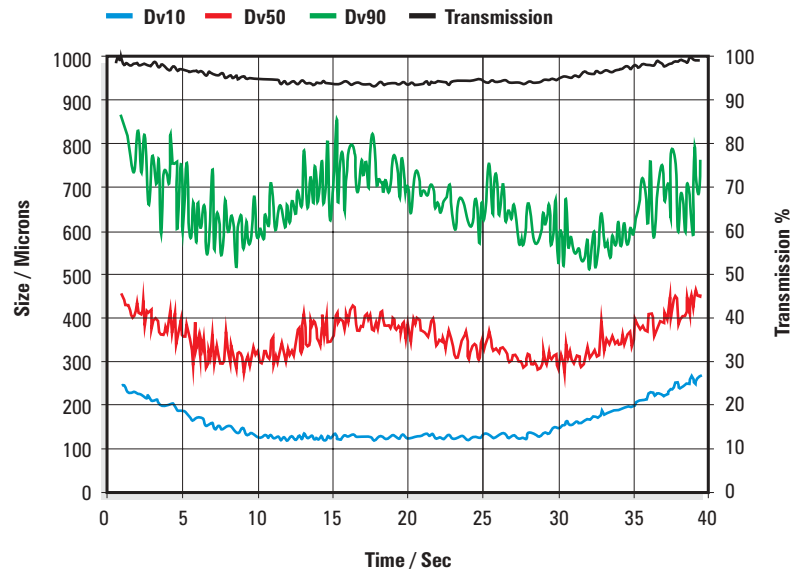

Figure 2: Plume profile measured for an AI agricultural spray nozzle.
The droplet size produced by air inclusion (AI) nozzles can also be measured using the Spraytec system. The profile for a typical AI nozzle (Billericay Bubble Jet03) is shown in figure 2.